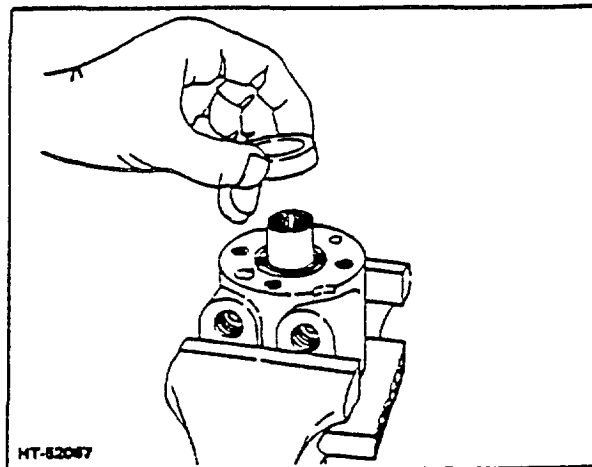

Figure 12. Removing Cap Locator Bushing
12. Remove cam locator bushing (Fig 12.).